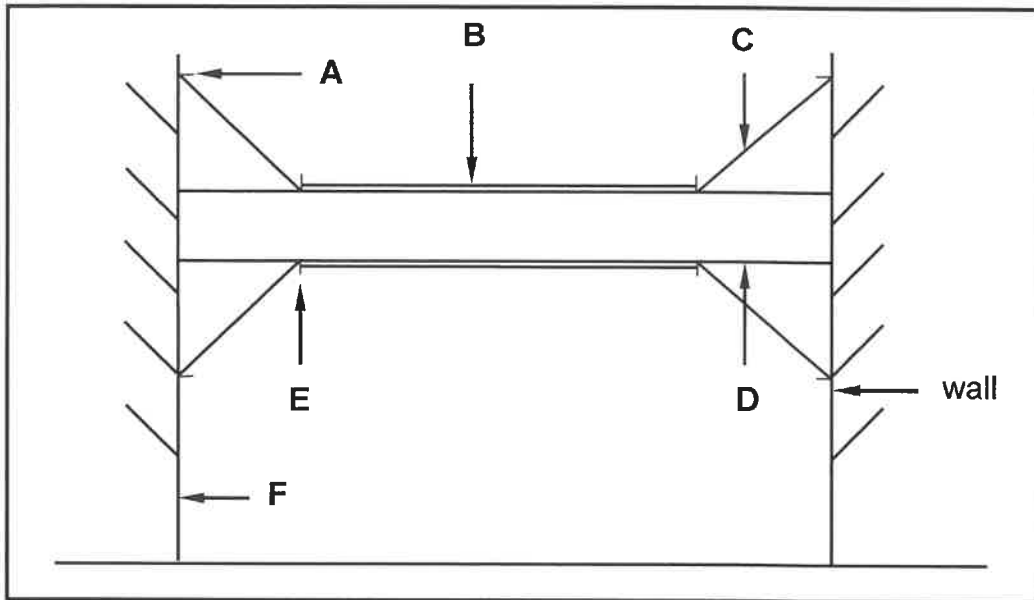

FIGURE 5.6
- 5.6 FIGURE 5.6 shows a line diagram of a double-flying shore between two walls. Label A to F.